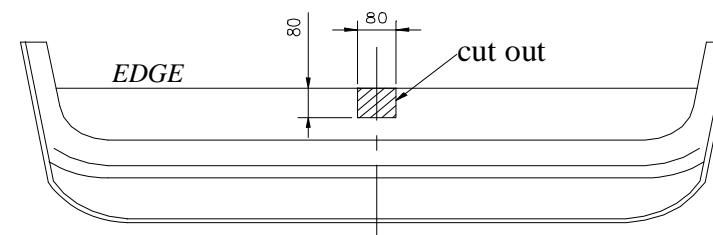

Fig. 2
2. For models till 1999; cut a hole, on the lower edge of the bowl of the bumper as shown in the fig. 2. For models from year 2000, you must check dimensions of cut out fragment.
3. Apply the main bar (pos. 1) to the chassis members of the car and twist in the designed places by the manufacturer, with screws M10x1,25x30mm (pos. 7).
4. Through hole of the towbar (pos. C) and original tow-eye, fix by M10x75mm bolts (pos. 6) using cut washers (pos. 4).
6. Screw tow-ball (pos. 2) and socket plate (pos. 3) using bolts M12x75mm (pos. 5) from accessories.